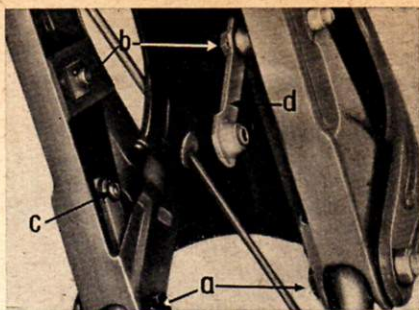

Fig. 73 Fixture of the swinging link rubber bands and bearing
- Remove the M 8x60 hexagonal screw "a", fig. 73, on the swinging link bearing from the fork or tap out with a punch.
- Unscrew the spring-stop-end nut and remove the M 6x45 hexagonal screw "b" on the counter support bearing "d" from the left hand side of the forks (see fig. 73). Withdraw spacer sleeve and the counter support link.